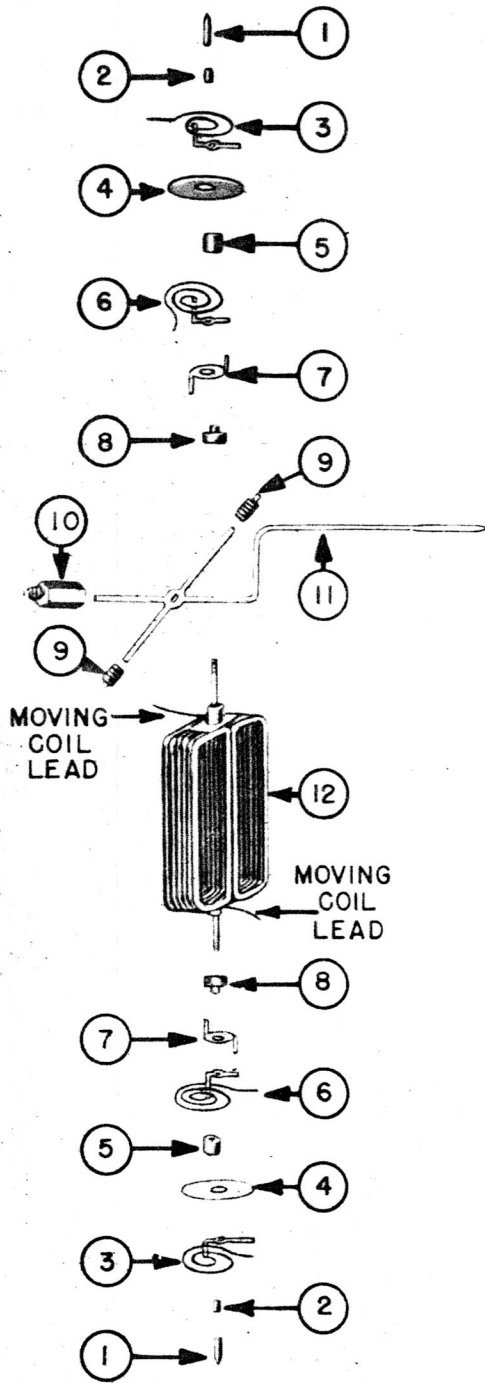

Figure 245—Moving Element Disassembly—
7. MOVING ELEMENT DISASSEMBLY.—PART NUMBER 100442. (See figure 245.)
a. Unsolder the leads from the moving coil to the inner top and inner bottom spring terminals (7).
b. Remove the nut (2) from the upper pivot base.
c. Remove the parts (3) through (11) from the upper pivot base in the order shown on figure 245. The movement springs are delicate. Always handle them by grasping the inner spring terminal with a pair of pointed tweezers. The balance weights (9) and (10) should not be removed from the pointer (11) unless they are loose or damaged.
d. Invert the moving element and remove nut (2) from the bottom pivot base.